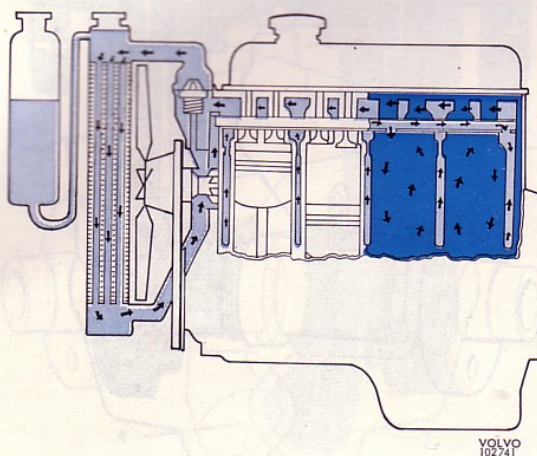
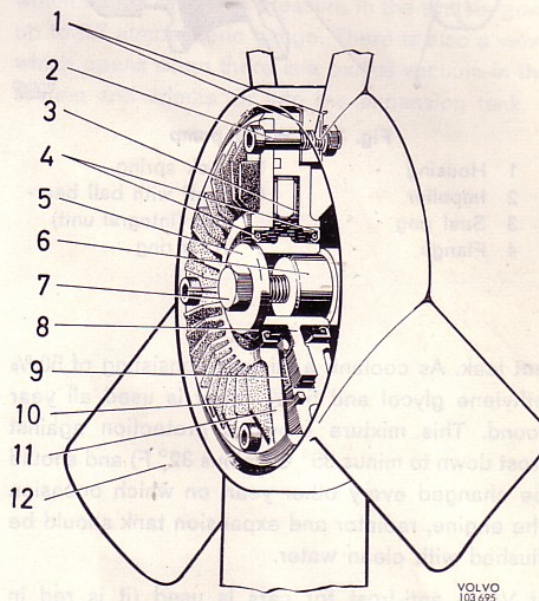
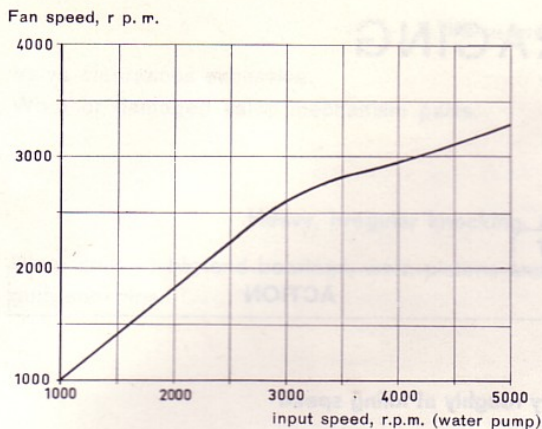

Fig. 124 Sealing cooling system
Fig. 125 Viscous fan
Fig. 131 Curve for fan coupling slip
The engine is water-cooled and the cooling system is of the sealed type, see Fig. 124. The B 20 A engine is fitted with a fixed fan. A speed-regulated fan (does not apply to models 1300 and 1800, which have a fixed fan), a so-called viscous type (see Fig. 125), is fitted on the B 20 B unit. Its function is to ensure that the fan blades do not exceed a certain speed even if the engine speed is exceeded. See Fig. 131. The five fan blades are mounted asymmetrically to keep down the noise level. The fan coupling consists of the casing (11, Fig. 125) in which the plastic fan blades (12) are secured with the bolt (2). The casing (11) has two halves which, however, cannot be separated for repairs, the fan coupling then being replaced complete. The hub (8) has a light fit on the water pump flange (6) and is locked by means of the centre bolt (7). The hub is provided with a slip disc of friction material (9) surrounded by oil. During idling and at low speeds, slipping is insignificant, so that the fan provides an air current for good cooling. When the incoming speed (that of
the water pump) exceeds about 2600 r.p.m., the slipping increases (see Fig. 131). With this arrangement, the fan speed should never exceed about 3000–3500 r.p.m. The fan noise output would then be low compared with a fan which runs at the same high speeds as the water pump. Compared with this latter type of fan, the output loss will be less for the viscous type fan.
The fan coupling function can be checked with a stroboscope with variable blinking frequency. Make a mark on the fan and one on the water pump pulley. Find out the speed relationship between fan and pulley by means of the stroboscope. The fan speed should follow the speed of the water pump according to the curve given in Fig. 131.